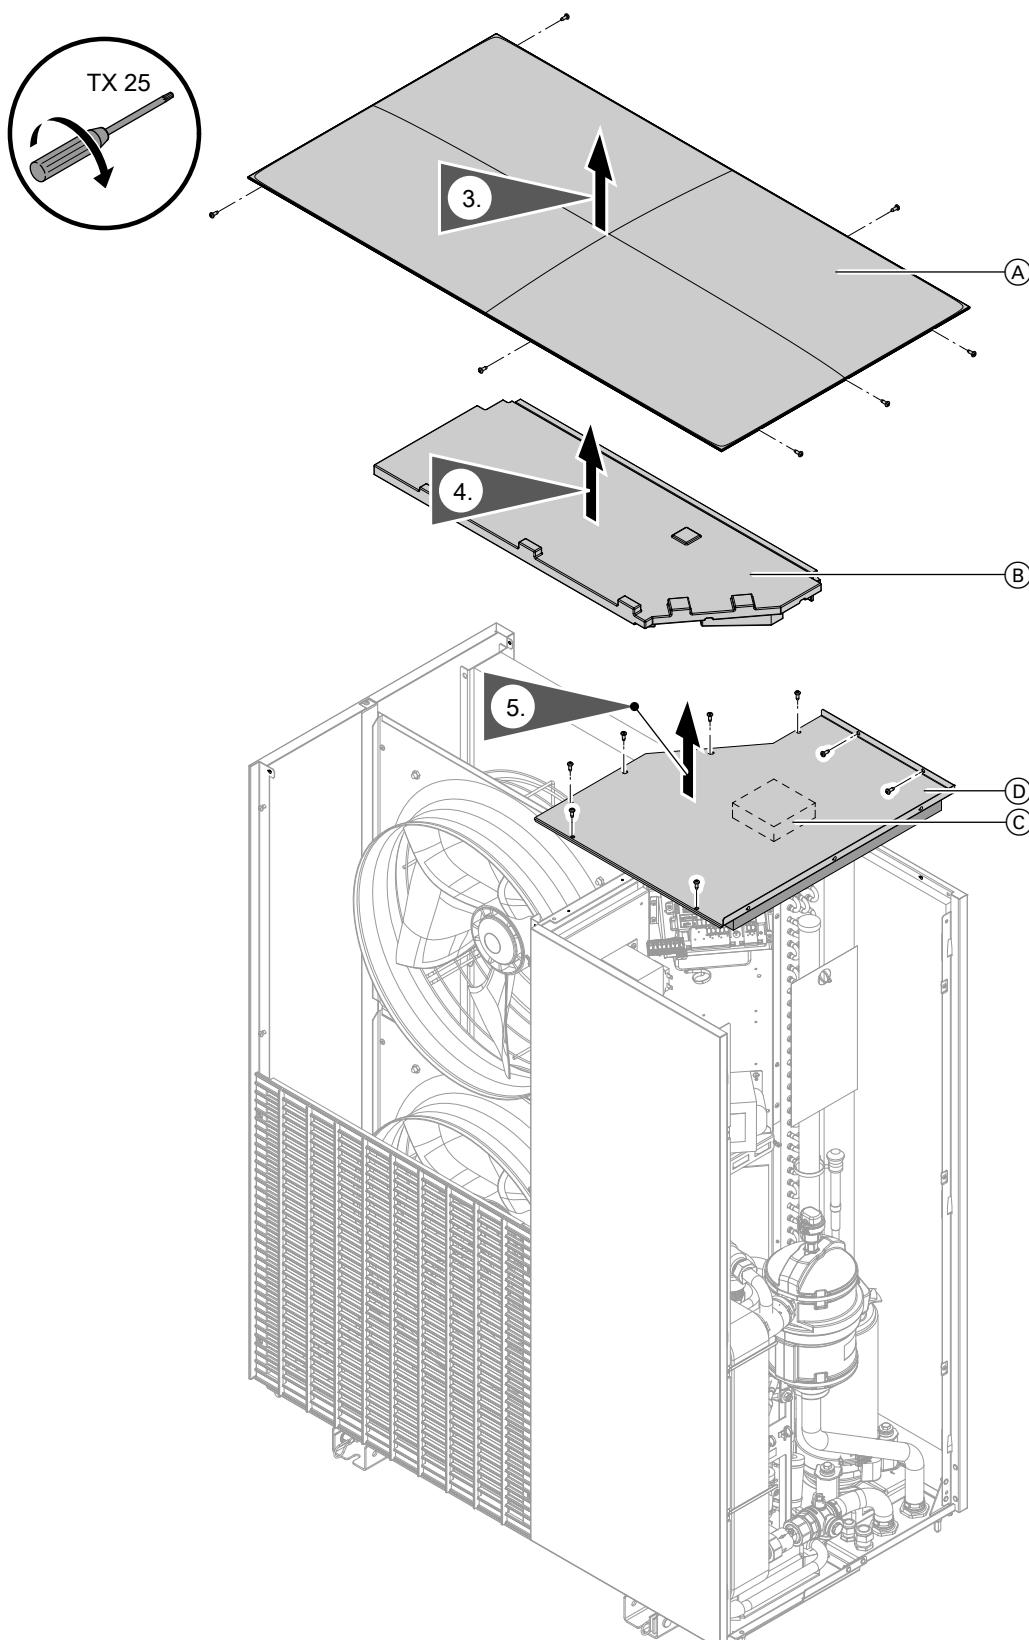

Fig. 100
4. Remove cover: See Fig. 100.
3. Remove cover: See Fig. 100.
2. Remove cover: See Fig. 100.